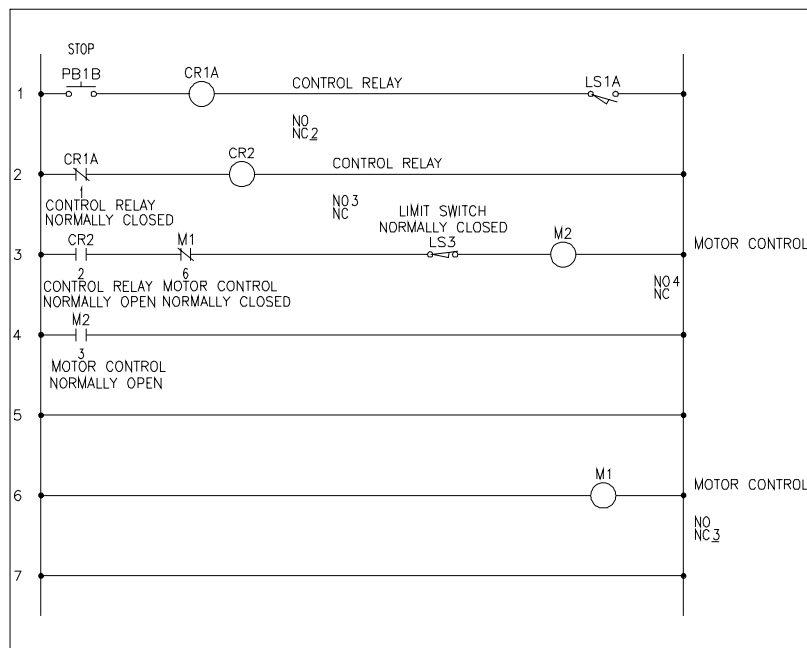

Figure 6-40 Components inserted in the ladder
24. Similarly, insert **Limit Switch, NO** in the rung 1. To do so, choose the **Limit Switch, NO** from the **JIC: Limit Switches** icon of the **Insert Component** dialog box; you are prompted to specify the insertion point. Enter **18,18** at the Command prompt and press ENTER; the **Insert / Edit Component** dialog box is displayed. By default, LS1A is displayed in the edit box of the **Component Tag** area in this dialog box. Next, choose the **OK** button; LS1A is inserted into the drawing. Figure 6-40 shows the ladder with components inserted in it.